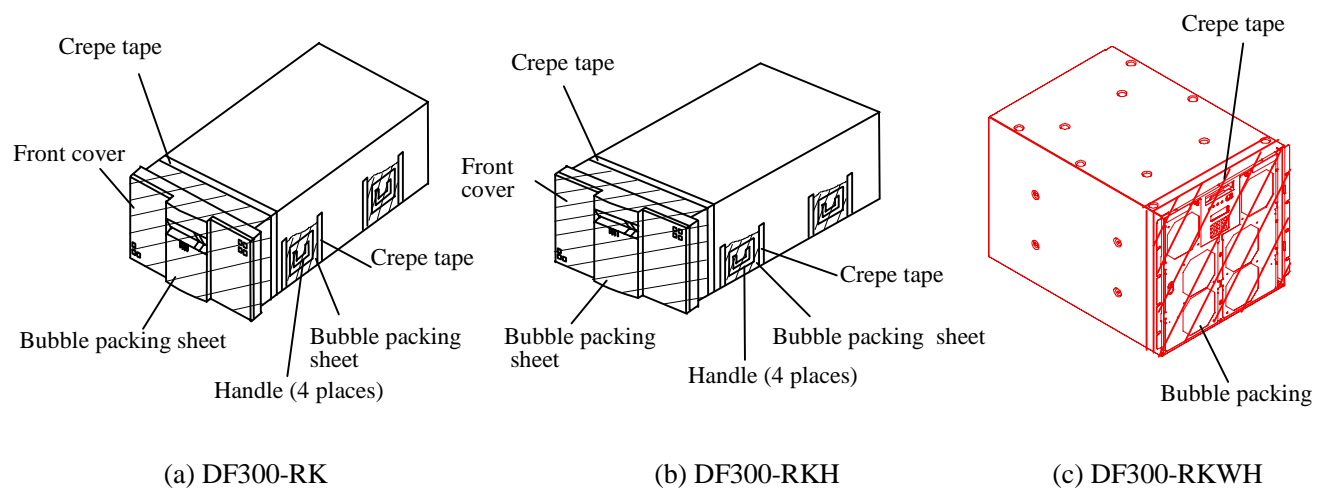

Figure 3.3 Protection for Front Cover and Handle
6. Remove the cushioning materials, tape, and the like attached on the subsystem. (See figure 3.3.)